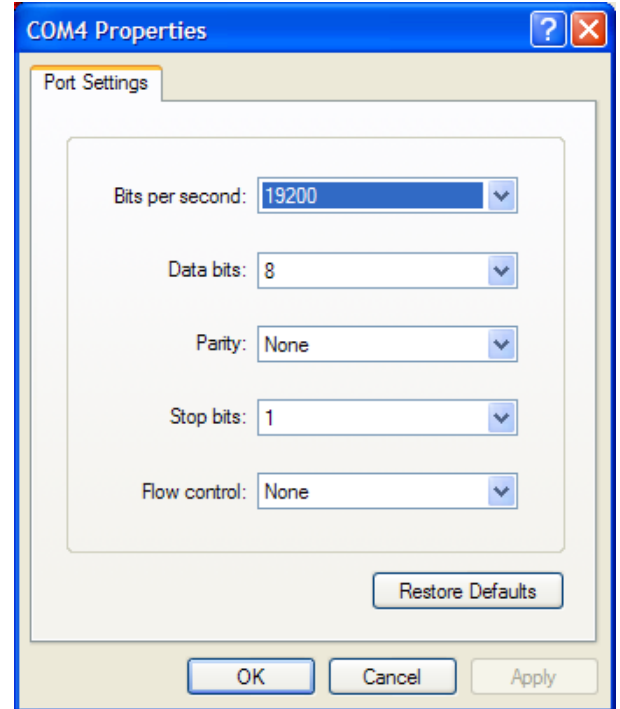

Figure 38. COM Port Setup
3. Configure this COM port as shown in Figure 38.